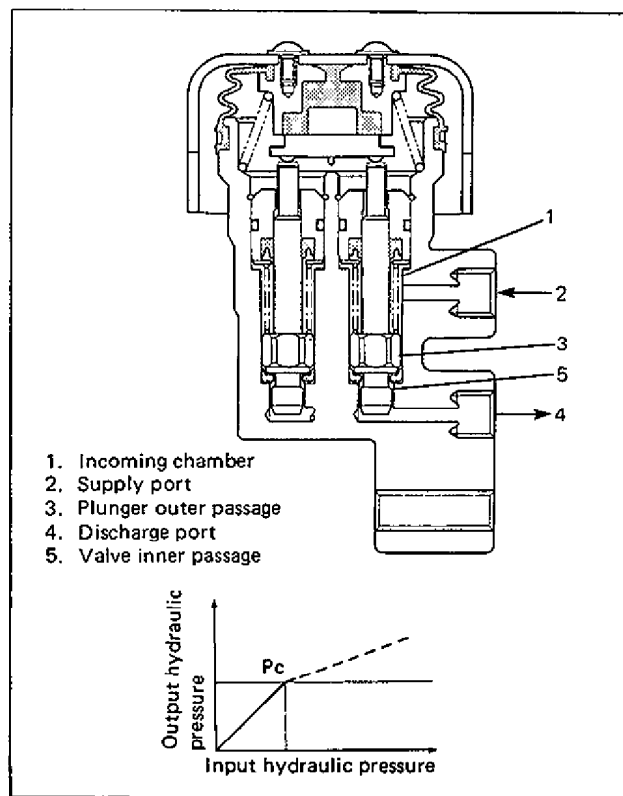

Fig. 5-20-3
1) Operation from the inoperative state till the incoming hydraulic pressure (fluid pressure from the master cylinder) reaches the bend point  $P_c$  in the graph as shown in Fig. 5-20-3: